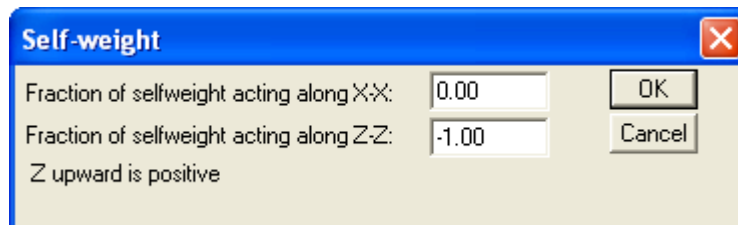

FIGURE 2.20-3
- Click on Add self-weight  tool. The dialog window shown in **Figure 2.20-3** opens.